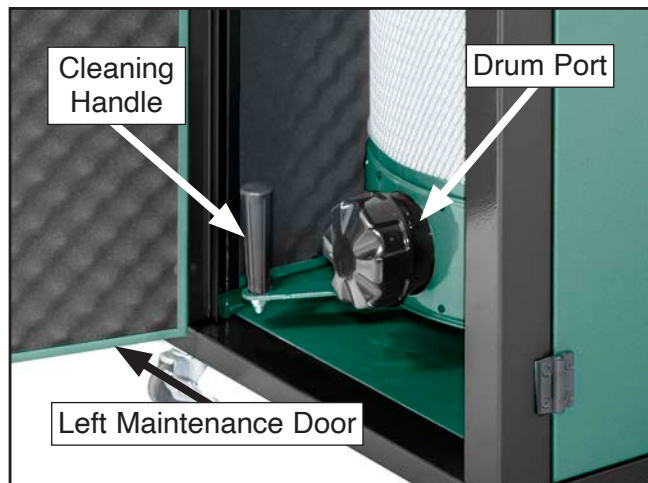

Figure 61. Drum port and cleaning handle facing left maintenance door.
14. Position assembly inside machine so cleaning handle and drum port face left maintenance door (see **Figure 61**).